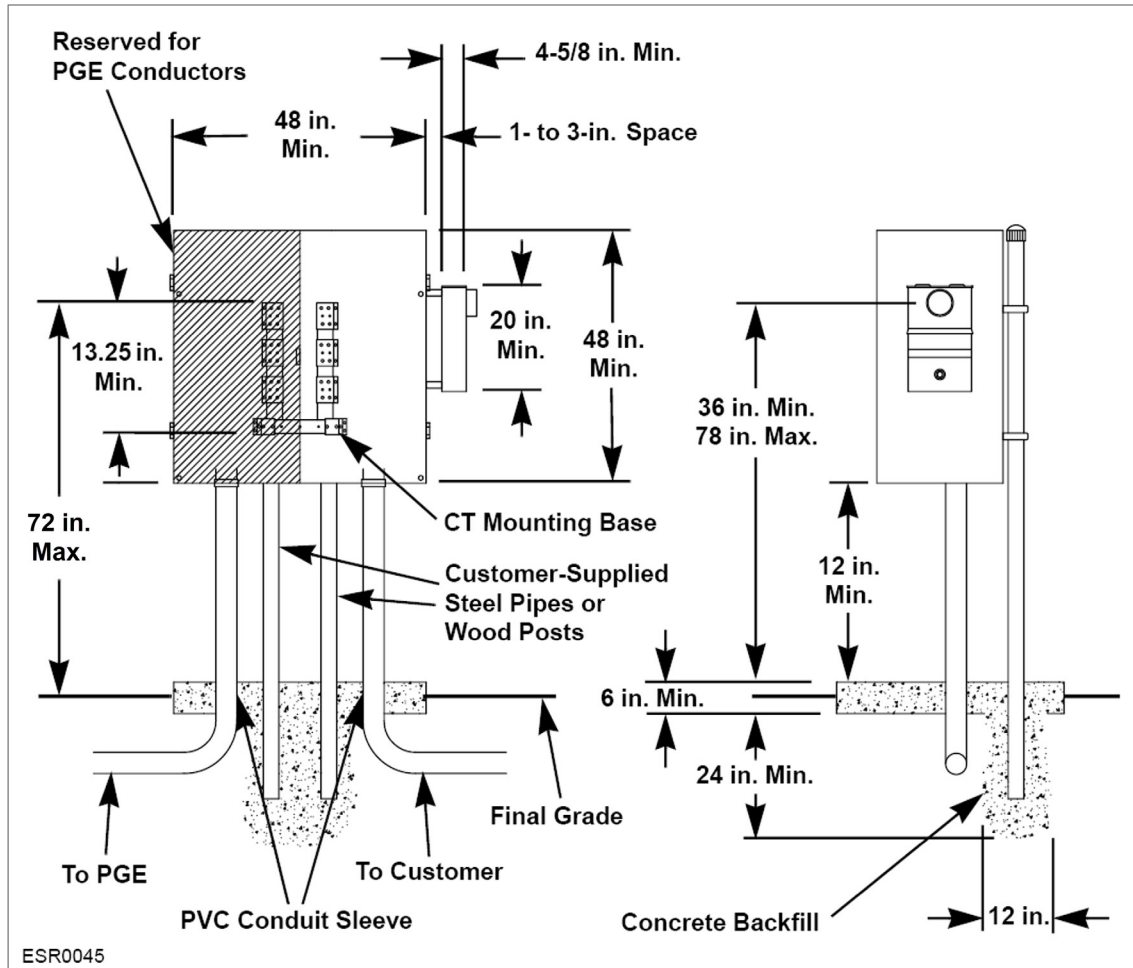

Figure 79: Current Transformer Metering, Post Mounted, 600 V, 800 A Maximum
Figure 79 shows current transformer metering, post-mounted, 600 V, 800 A maximum. The customer must consult PGE before construction.
- The configuration shown in **Figure 79** can be used as a wall mount if clearance allows.